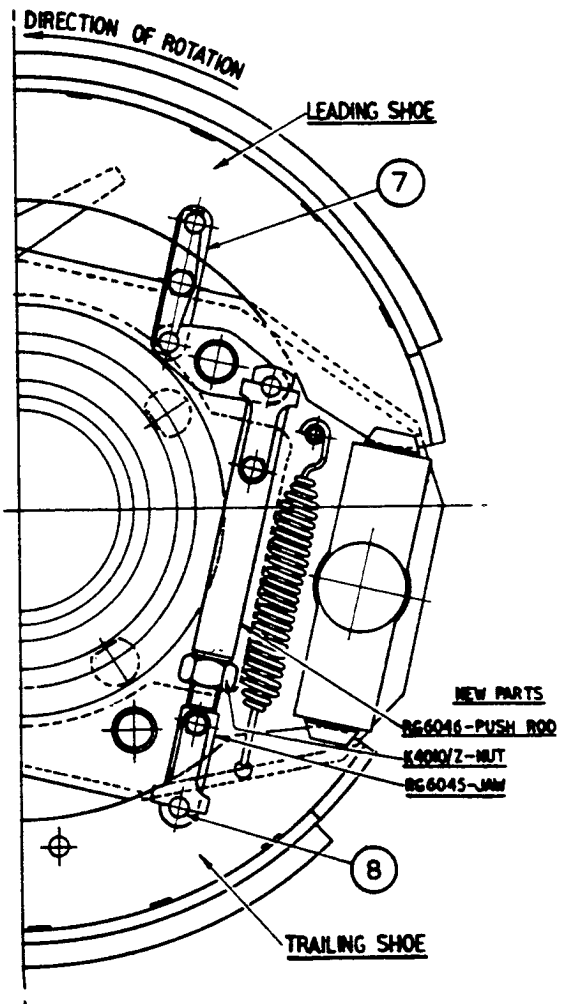

FIG. 2.
- (ii) Unscrew the two setscrews retaining the locking plates (1 & 6 Fig.2) on the inter shoe linkage nearest each shoe and pull out the pins holding the links to the shoes and withdraw the complete linkage away from its pivot (5). Do not disturb the setting of the push rod by turning the jaw relative to the rod. It is advisable before removing the linkage, to check the locknut (2) on the push rod for tightness.
- (iii) With a 7/16" (B.S.F.) cranked ring spanner, remove the locknut, the Grover and plain washer from the back of the pivot (5) and transfer the pivot from its position just above the lower or trailing shoe to the existing hole in a similar position just below the upper or leading shoe. (See "Modified" Drawing Fig.2).
- (iv) Still without disturbing the setting, remove the push rod complete from the pivot lever (4). Place one of the $\frac{3}{8}$ " nuts K.4010/Z on to the new jaw and fit the new push rod and jaw to the pivot lever and adjust the length until it is the same from pin hole to pin hole as the original rod and tighten up the locknut. Since the finest adjustment is half a turn, any error should be such that the new push rod is shorter than the old, rather than longer.
- (v) Refit the linkage complete to the pivot in its new position which will result in the short link (7 Fig.2.) now being attached to the leading shoe and the push rod to the trailing shoe. The necessary holes already exist in the shoe rib, since all shoes are common to any position.